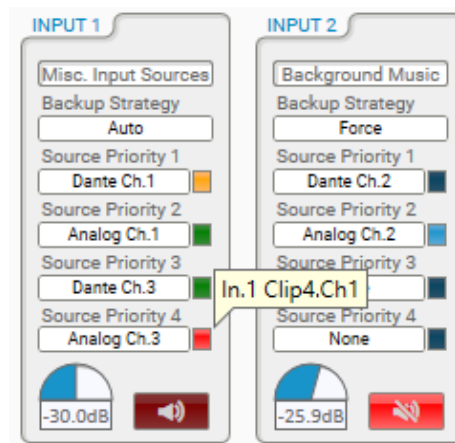

Figure 6 – Screenshot Input Section.
- The Input section is made up of the following controls (Figure 6):